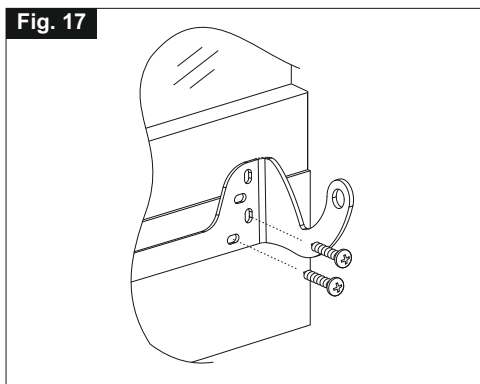

Fig. 18
- 6) **Fig. 18-** With an Allen wrench, adjust the opening stroke by means of a proper selector (**Ref. 1**) (for tandem installations, the actuators must have the same stroke).